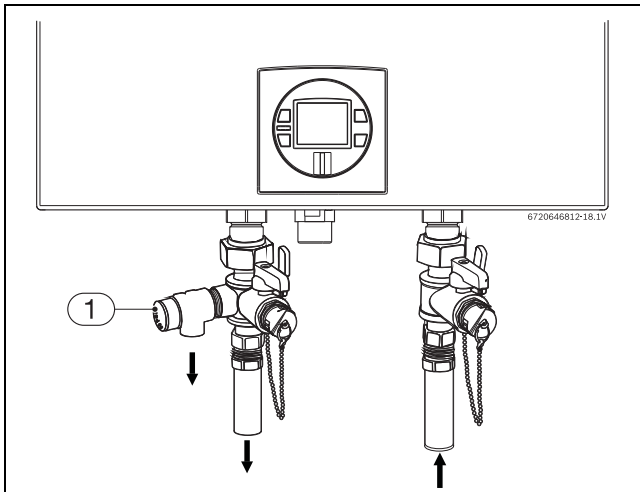

Fig. 37 Plumbing Connections (with shutoff valves) and Pressure Relief Valve
- ▶ Full port shutoff valves should be installed on both the cold water supply and hot water outlet lines to facilitate servicing the heater (see fig. 37).
A listed pressure relief valve must be installed at the time of installation. No valve is to be placed between the PRV and the heater. No reducing coupling or other restriction may be installed in the discharge line. The discharge line must be a minimum of 4" above a drain and installed such that it allows complete drainage of both the PRV and the line. The discharge line must be placed where it will not cause any damage. The location of the PRV must be readily accessible for servicing or replacement, and be mounted as close to the water heater as possible. See fig. 37. To install the PRV, a suitable fitting connected to an extension on a "T" fitting can be sweated to the hot water line. Support all piping.